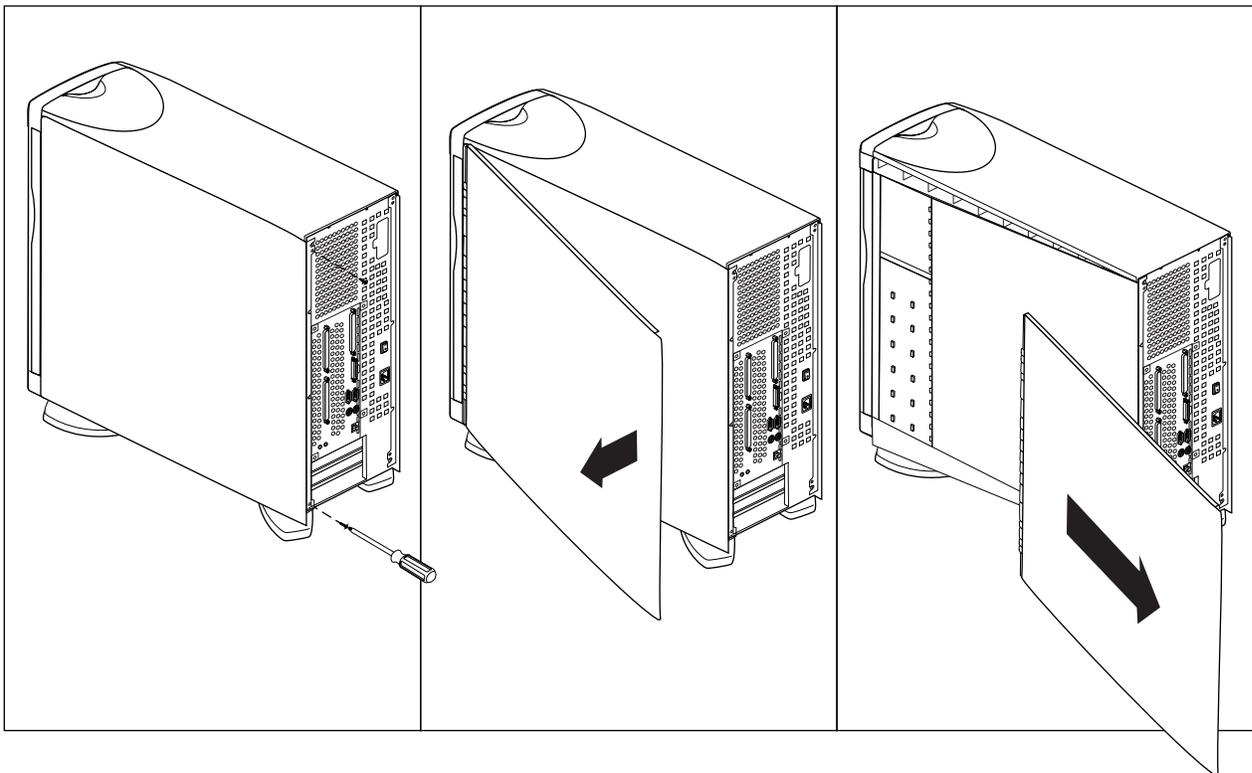

Figure 2-16 Removing the Side Panel of the Second (Slave) Module
1. If the slave system is in a tower configuration, remove the side panel as shown in Figure 2-16.